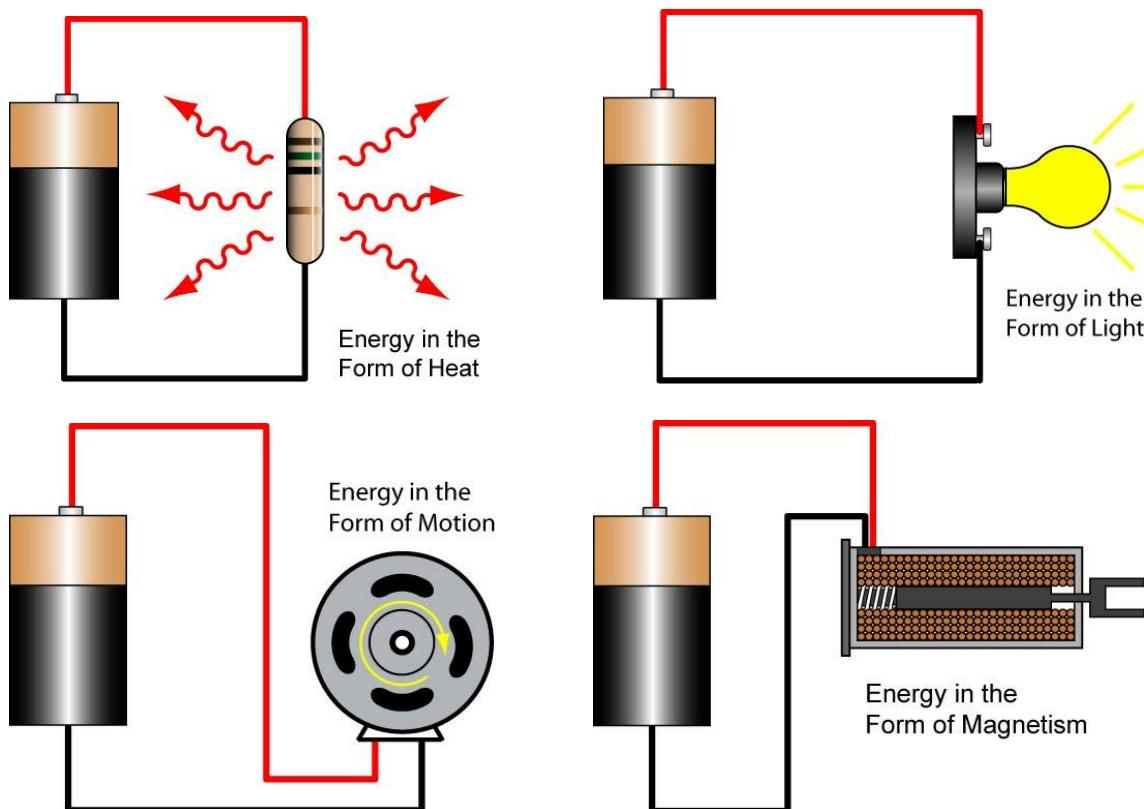

Figure 5: Electrical Energy Converted into Heat, Light, Motion, and Magnetism
- **Load:** The load converts the electrical energy to some other form of energy including heat (resistor), light (lamp), motion (motor), or magnetism (linear solenoid) (Figure 5). This is the part of a circuit that performs work.